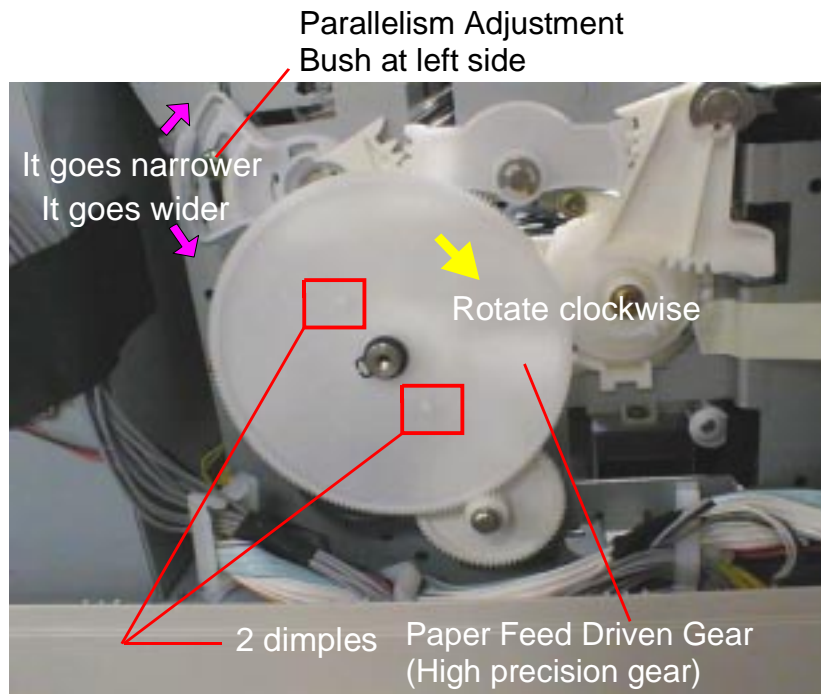

Figure 5-55. Rotational Direction of Paper Feed Driven Gear
- Step4. Loosen 2 parallelism adjustment bushes on both sides once. Figure below shows the position of fixing screw for adjustment bush at the right side. (Refer to figure5-55 for the fixing screw at the left side.)